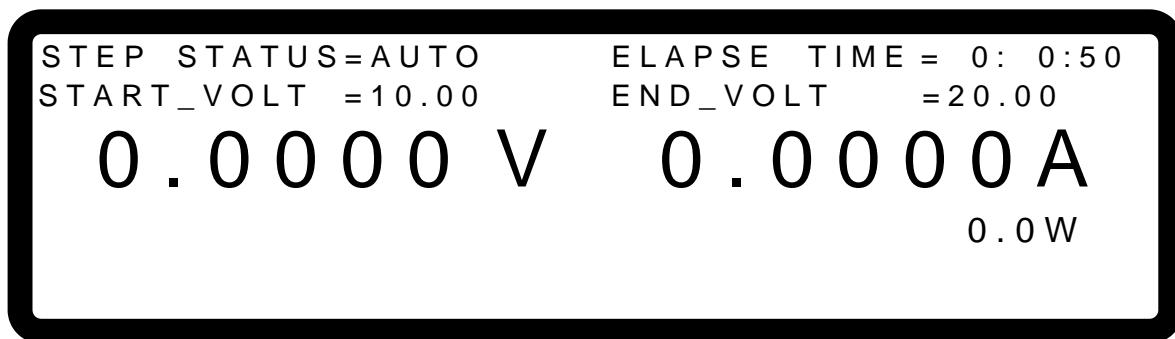

Figure 4-23
2. Press “**ON/OFF**” one more time to confirm the execution. The display will go to the MAIN PAGE during execution as shown in Figure 4-23. To stop the execution, press “**EXIT**” to return to the MAIN PAGE screen.